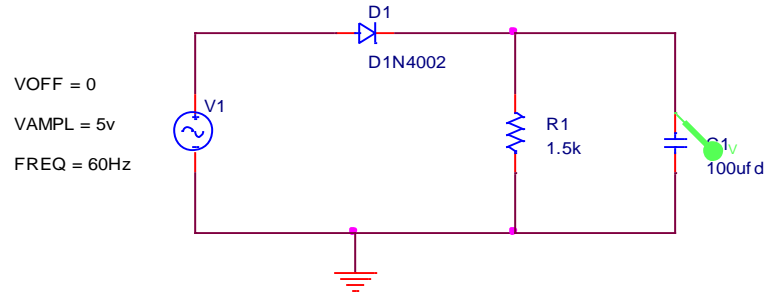

Fig. 4-3
6. Using the half wave rectifier Fig 4-3, design a circuit in which a capacitor is in parallel with R1 such that the ripple voltage, V_r , is 0.5V. Assume that $V_{on} = 700mV$ for the D1N4002. *You may need to use more than one.* Be sure to show all your work. T is the period of the waveform and it will be different for have-wave and full-wave circuits. Solve for C.